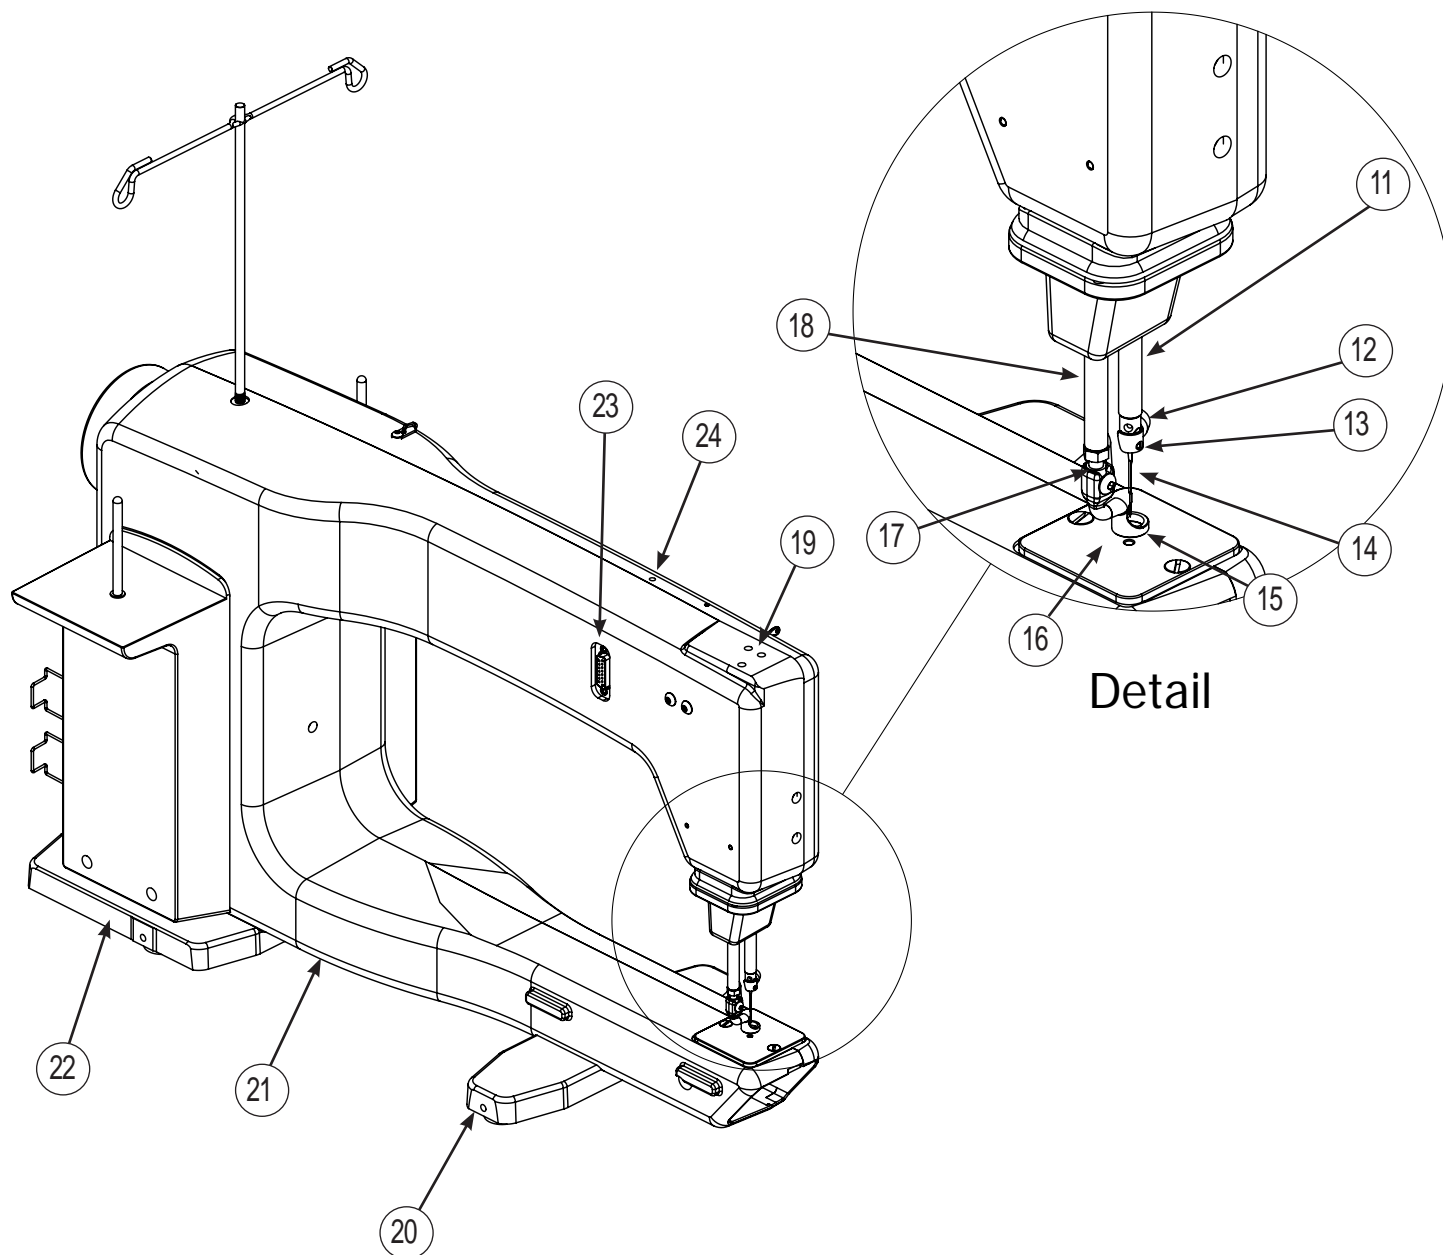

Figure 3
2. There are three holes on top of the machine head (see page 11, Figure 3, #19). Only the two holes that are in line with each other are used. Ignore the third hole located to the side of these two holes.
5. Plug the remaining cable end into the display connector located on the side of the machine (see page 11, Figure 3, #23).